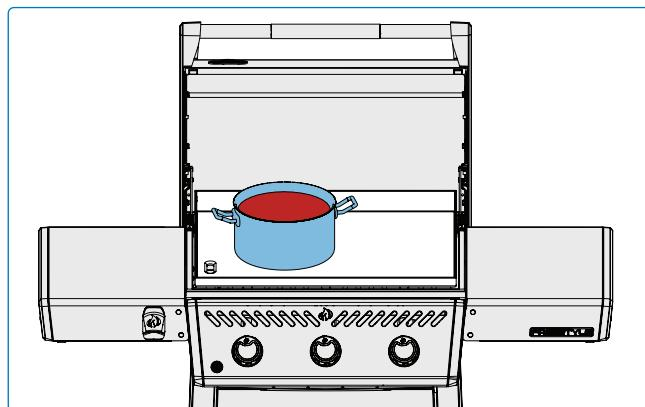

Fig. 10
- Use the griddle plate to melt or warm sauces. Place pots or pans off to one side over low to medium heat. (Fig. 10).